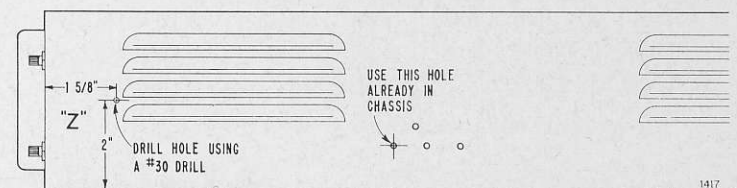

Figure 3. Side View of TV Chassis, Showing Locations of Holes for Mounting Adapter-Converter sub-chassis.
- b. Using a number 30 drill, make a hole in the side of the chassis at point "Z"; see figure 3.
- d. Using the two screws supplied, mount the sub-chassis. Use the hole at point "Z" and an unused hole in the chassis; see figure 3.